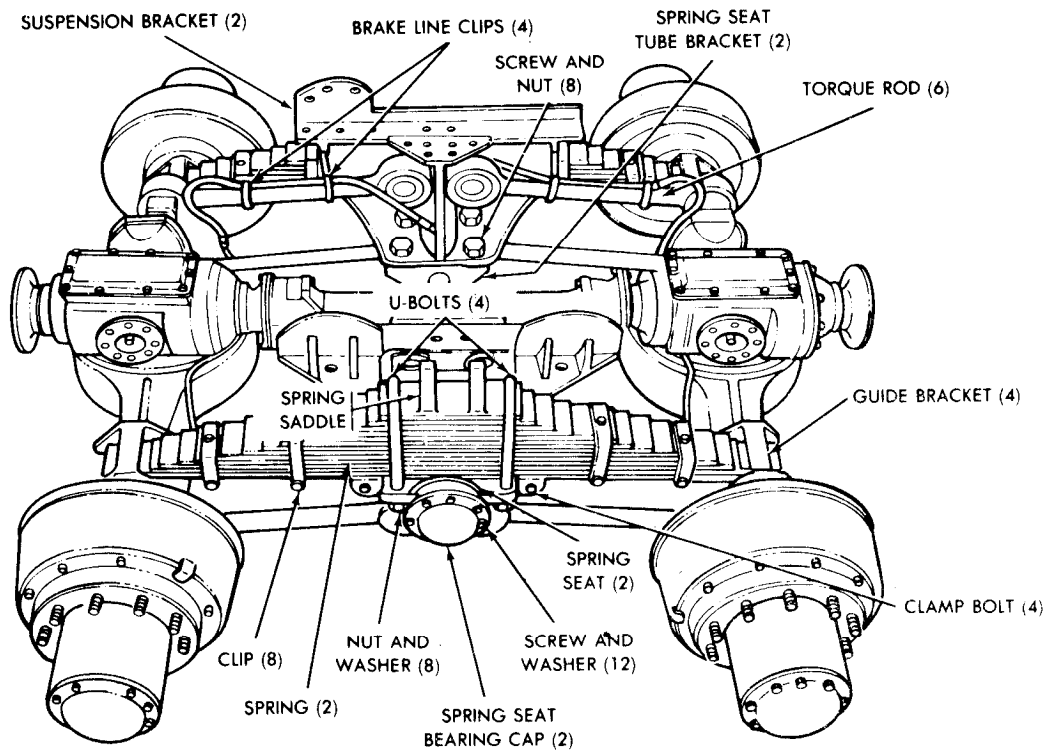

Figure 2-174. Rear Suspension System.
**2-184. General.** Two identical rear axle assemblies, mounted in tandem, are included in the rear suspension system (fig. 2-174). The rear axle assembly is a hypoid, double-reduction, single-speed type. Three identical torque rod assemblies, two at the right end of the axle and one at the left end of the axle, connect each rear axle assembly to the rear suspension brackets. These torque rods not only maintain the correct relative positions of the rear axle assemblies.
but also transmit driving and braking forces from the axles to the frame. A differential and carrier assembly, mounted at the top center of the axle housing transmits power from the transfer-to-forward-rear-axle and forward-rear-axle-to-rear-axle propeller shafts (fig. 2-174) to the left and right drive shafts inside the axle housing.
(1) Remove wheels from both rear axles to provide access to spring seats to be removed. Support axles with blocks or jack stands.
(2) Place jack under cross tube connecting left and right spring seats. Raise jack sufficient to remove load from springs.
(3) Remove clamp bolts from front and rear ends of spring seats (fig. 2-174).
(4) Remove four nuts and washers from U-bolts and remove U-bolts.
(5) Remove six screws and washers, securing spring seat bearing cap and remove cap and gasket (fig. 2-174).
(6) Remove outer bearing adjusting nut, washer and inner 0-bearing, adjusting nut from cross tube.
(7) Pull spring seat and bearings from cross tube.
(8) Remove dust seal washer, two dust seals, wiper retainer, wiper; grease seal and two bearings and caps from spring seat.
(9) Clean all parts in dry cleaning solvent. Type II (SD2) Fed. Spec. PP-680. Wire brush or buff if required.
(10) Inspect bearing and cups for pitting and wear. (Place special emphasis on inner bearing and cup.) Replace, if required.